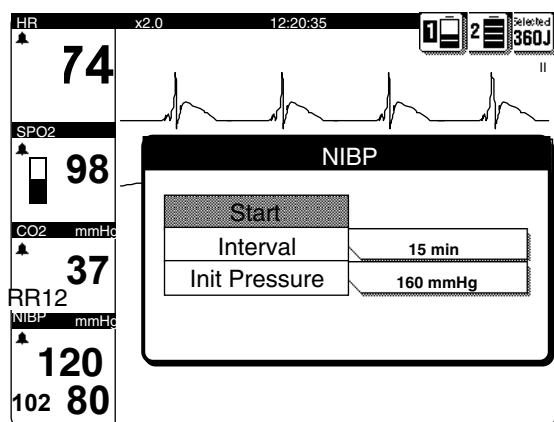

Figure 3-12 NIBP Overlay
- 5 To select an interval, highlight and select **NIBP** on the Home Screen. Refer to Figure 3-12.